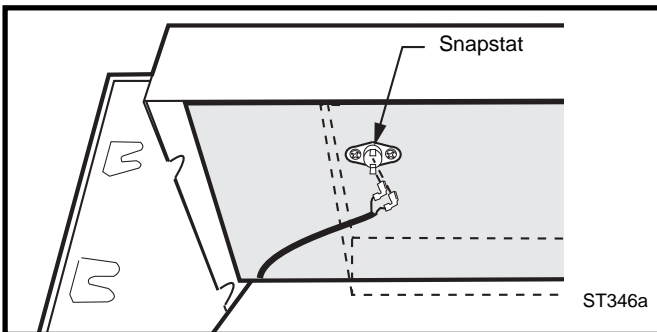

Fig. 9 Attach snapstat to inner shroud.
4. Secure the snapstat to the upper middle of the inner shroud. (Fig. 9) **NOTE:** The snapstat location may be reached through the front of the stove between the top and the firebox or you may loosen the four screws holding the rear shroud in place. Be sure to secure shroud back into place before operation.